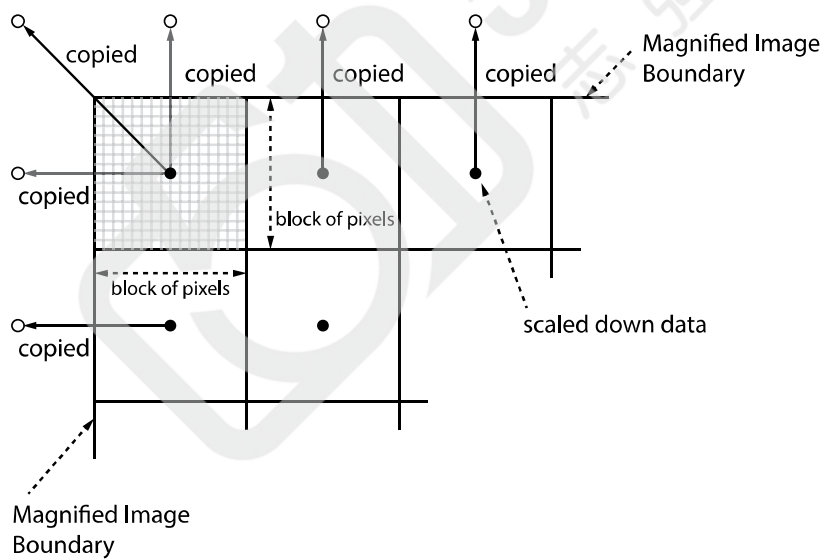

Figure 9-11 Bilinear Interpolated Magnification
3. Execute the **Flat Field Data Save** parameter to save the generated Flat Field data into the non-volatile memory. When the scaled down Flat Field data are used for correction, they are expanded and applied with a Bilinear Interpolation as shown in the **Figure 9-11**.